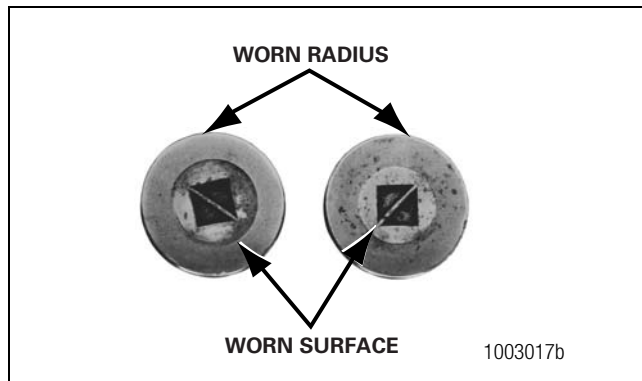

Figure 4.1
- The center of the large-diameter end of the rollers is worn level with or below the outer surface. Figure 4.1.
- The radius at the large-diameter end of the rollers is worn to a sharp edge. Figure 4.1.